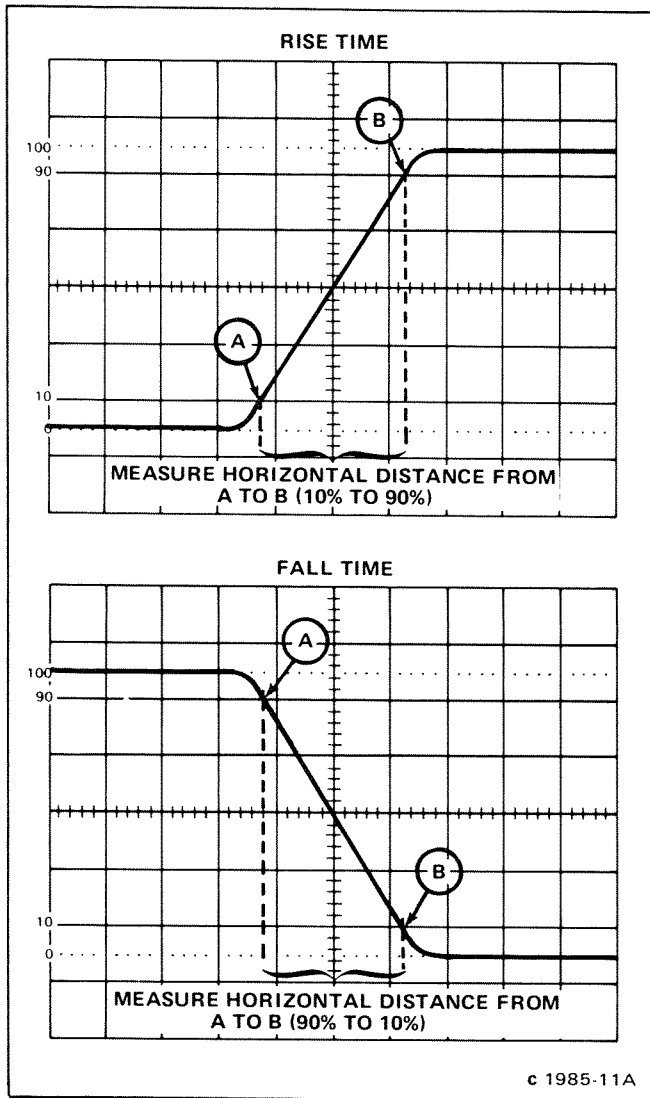

Fig. 2-6. Measuring the rise time and fall time of a displayed waveform.
6. Set the TIME/DIV switch and POSITION control to display the rising or falling portion of the waveform within the center 8 graticule divisions as shown in Figure 2-6 (see General Operating Information in this section for discussion of timing measurement accuracy).
7. Determine rise time or fall time by measuring the horizontal distance in divisions between the point on the rising or falling portion of the waveform that is 10% and the point that is 90% of the total display amplitude (see Fig. 2-6).
Example: Assume that the horizontal distance between the 50% amplitude points is 3 divisions, and the TIME/DIV switch setting is .1 μ s (see Fig. 2-6).